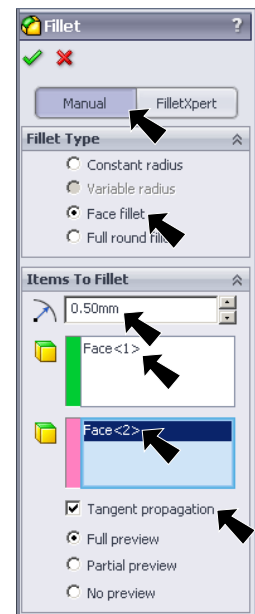

Fig. 52
Step 3. In the Fillet Property Manager, select **Manual**, **Fig. 52** under Fillet Type select **Face fillet**
click in the **Face Set 2**  box, **Fig. 52**